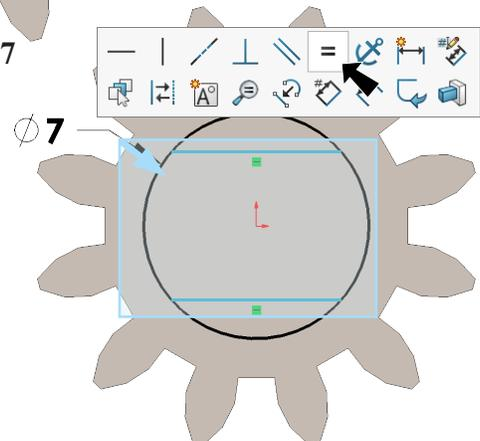

Fig. 8
Step 7. **Drag selection to right to select both lines** and click **Make Equal**  on the context toolbar, **Fig. 8.**